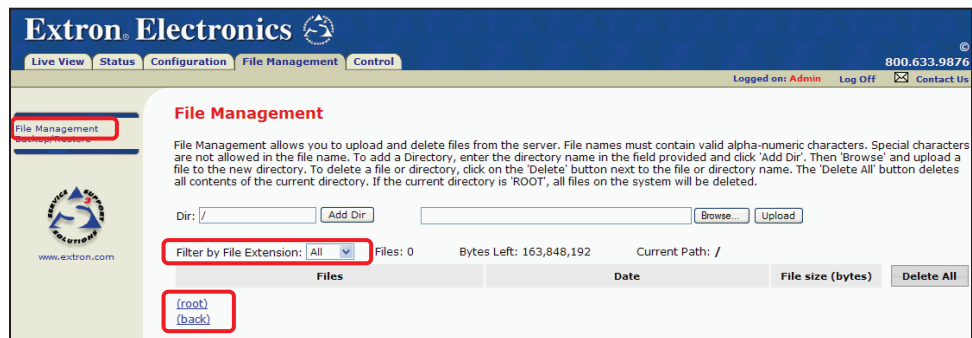

Figure 60. File Management Page – Root/Back Links; File Extension Sorting
- Use the **root** and **back** links (see figure 60) to navigate between directories.